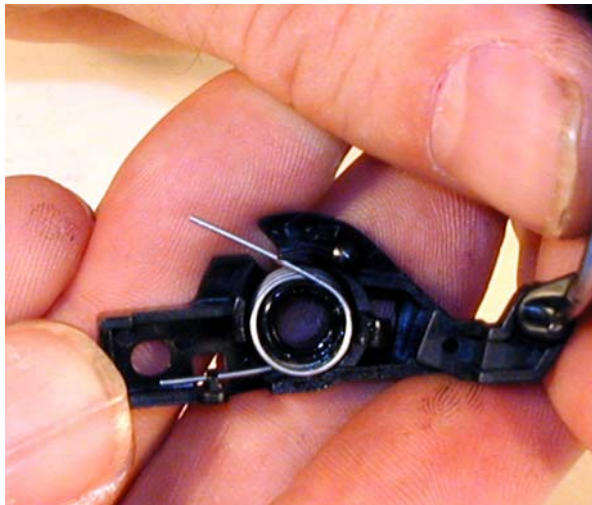

Figure 62
41) Install the drum cover. Set the spring in the holder as shown. Snap the holder in place and install the metal bar into the proper holes on each side. See **Figures 62, 63 & 64**